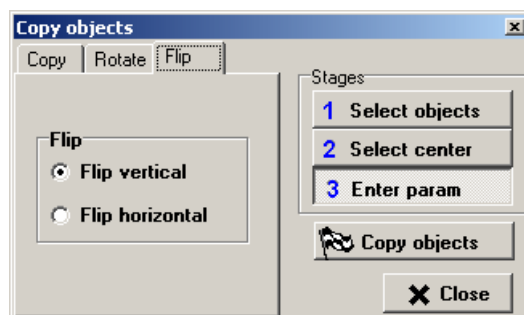

Fig. 15
- **Flip**. This operation represents flip of the selected object with reference to some vertical or horizontal axis. The **Flip** tab includes the following elements (see Fig. 15):